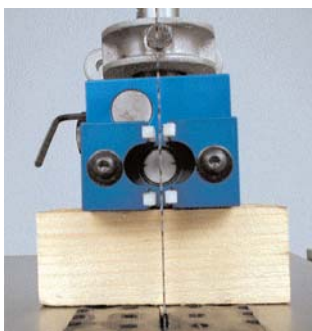

Fig. 8
9. Because the Surround Guide may increase the resaw height of your band saw, it may not reach the table of the band saw. To square the Surround Guide to the table, place a piece of parallel wood or something similar on the table and bring the Surround Guide down slowly so that it just touches the block. Tighten the Allen set screw. See Fig. 8.